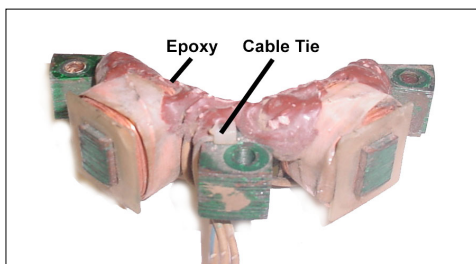
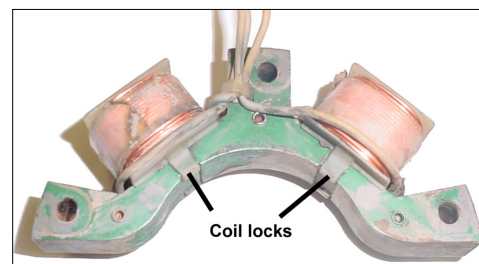

Fig. 3
Fig. 4
10. In a well ventilated area, use a heat gun and heat the brown epoxy securing the old coils to the frame. (Fig. 3) Carefully pry the epoxy off until the coils are fully exposed. Cut the cable tie and the coil locks. (Fig. 4) Then carefully pry the old coils off of the frame. Do not bend the frame!!